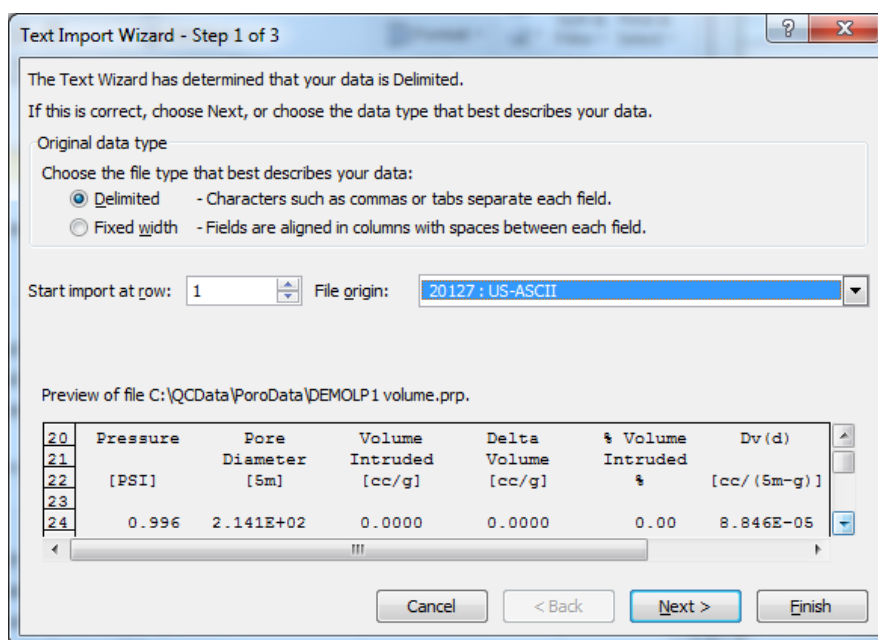

Figure 39. Text import wizard step 1 dialog box
- In Excel: Select **Open, All files**, and pick the desired .prp file. This will open the **Text Import Wizard** (Figure 39).